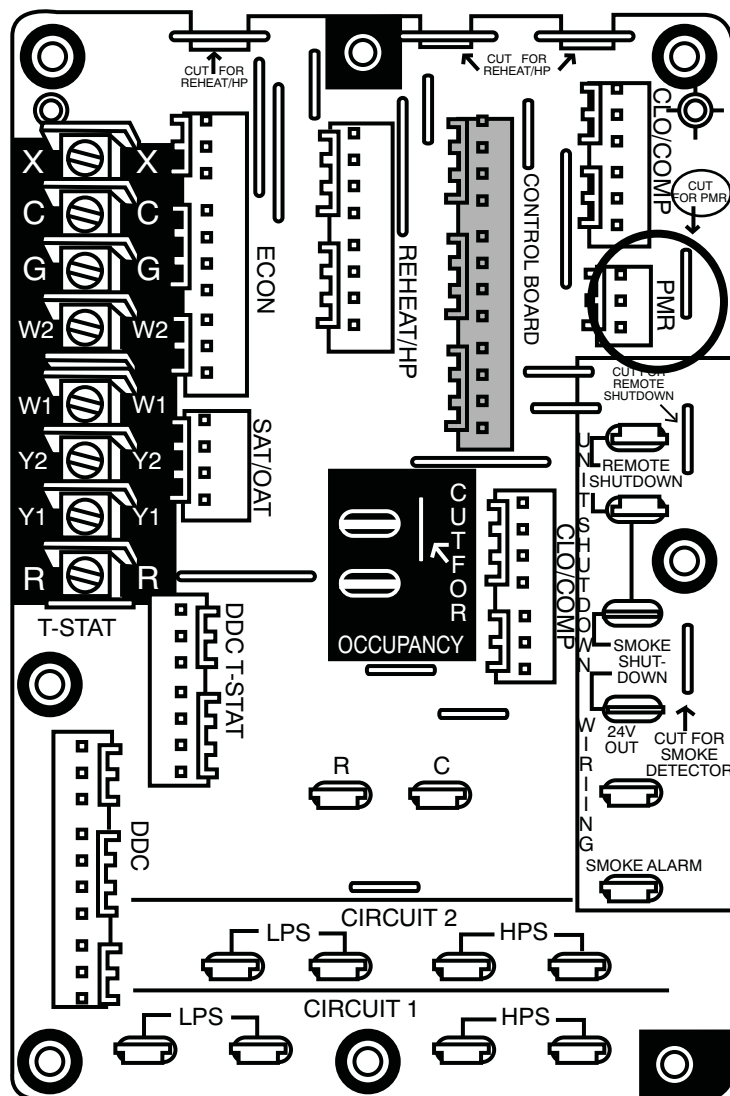

Fig. 3 - Terminal Board
3. Using the provided wiring harness, connect the female molex plug to “PMR” male connector on the units mounted terminal board. See the terminal board diagram on Fig. 3.
7. Cut the PMR jumper on the terminal board. (See Fig. 3.)